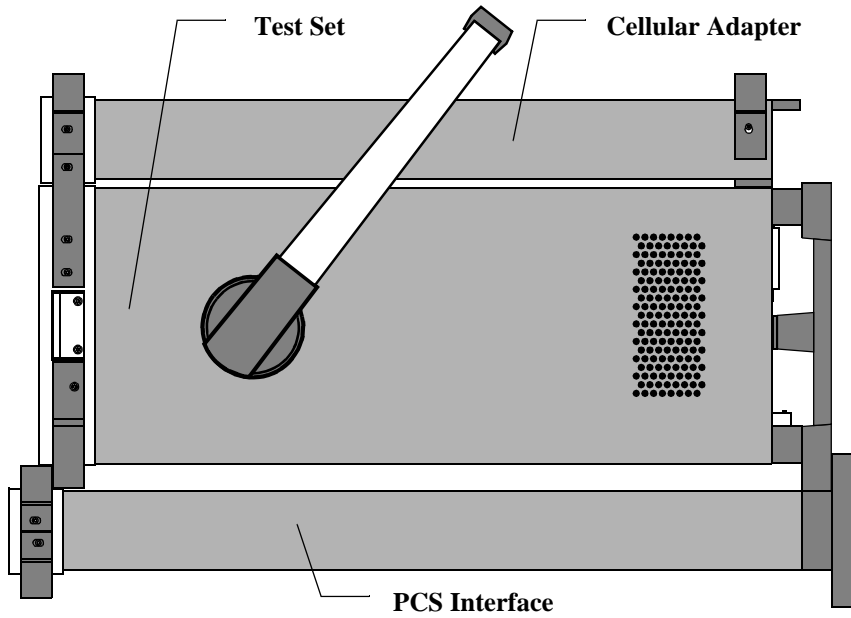

Figure 7 Horizontal stacking configuration (side view) for the HP 8920 Test Configuration
- a If you are placing the Test System horizontally (on a bench top, for example) place the Test Set (together with the Cellular Adapter) on the top of the PCS Interface. Position the bumpers (feet) of the Test Set so that they are stably seated between the forward and rear bumpers of the PCS Interface. Refer to figure 7.